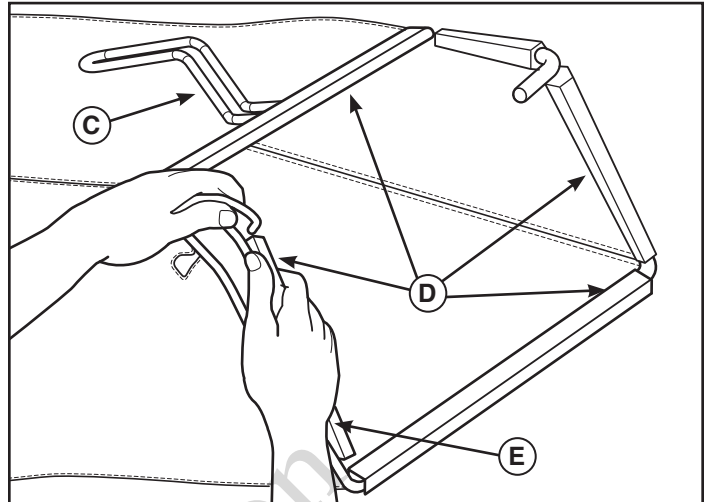

Figure 4
1. Insert the grass catcher frame into the bag with the rigid floor of the bag to the bottom. Make sure the frame handle (C, Fig. 4) is outside of the bag and toward the top.
2. Snap the vinyl retainers (D) over each bar of the frame opening (E).